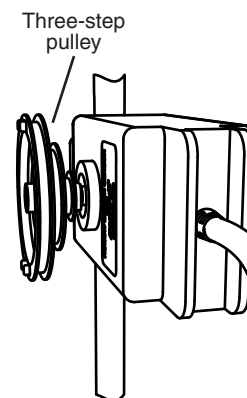

Figure 2: Three-step pulley on RMS
2. Slide the three-step pulley onto the RMS shaft with the largest pulley out as shown in Figure 2.